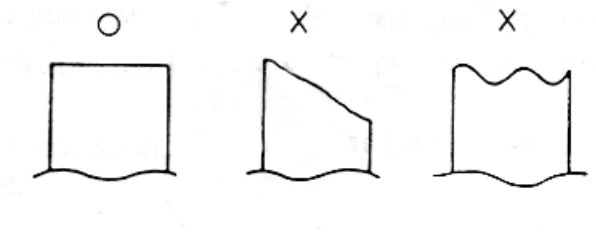

Fig. 14
- 2) Put the end of the paper off at a right angle as shown in figure 14.